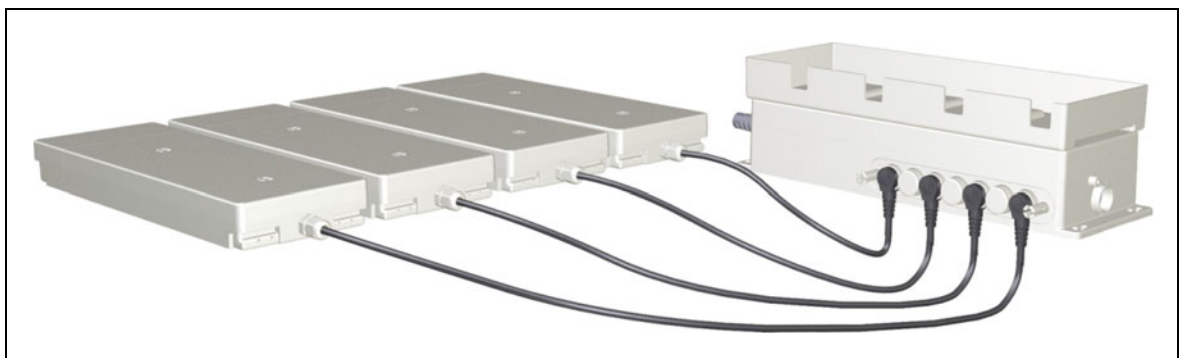

Figure 10 Charging the AG300 at a charging station (charging station sold separately)
- Depending on your model, the AG300 may either be automatically charged using the electronics in the control unit or drive system, or using the charging station (sold separately), as shown in Figure 10.
The AG300 is charged by the drive or control unit that it is connected to. It is also possible to use an external charging station to charge the AG300 (as shown in Figure 10).